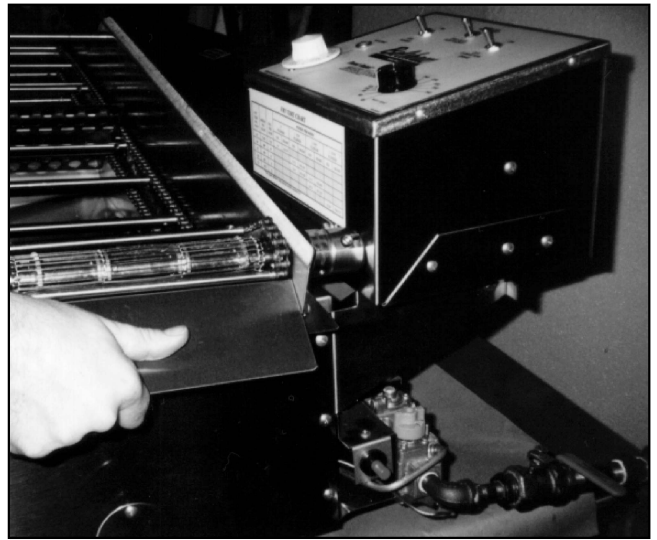

Figure 1-2. Joining the Couplings.
- a. Hold the conveyor at the angle shown in Figure 1-2 and slide the conveyor drive coupling over the main drive shaft coupling. The conveyor coupling has a notch in it. Turn the conveyor coupling until the head of the socket head screw in the drive coupling can slide into this notch. (See Figure 1-2.)